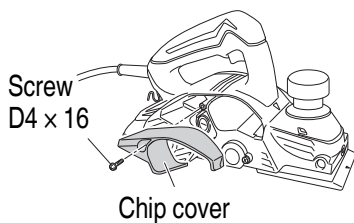

Fig. 28
- (1) Remove the screw D4 × 16 in the chip cover and remove the chip cover as shown in **Fig. 28**.